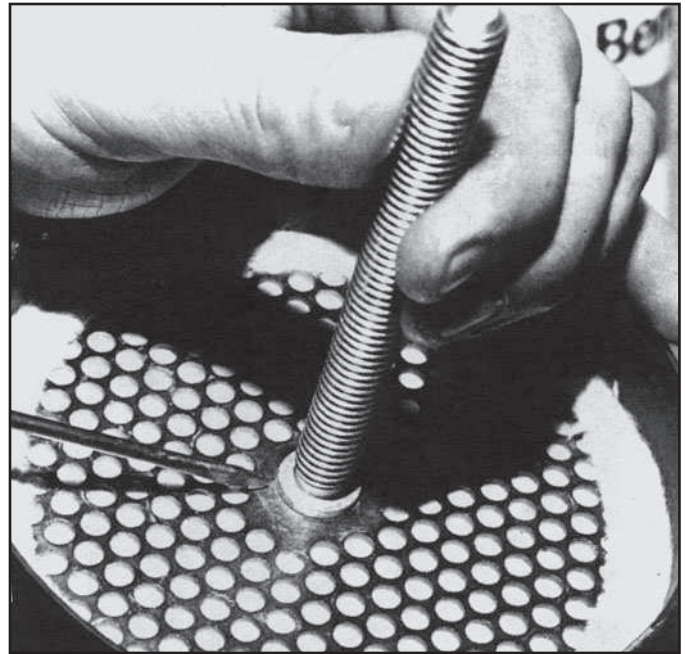

Figure 12 – Perforated Plate
Before tightening the lock nut down, make certain that the shoulder (the unthreaded portion) of the cartridge bolt extends slightly above the perforated desiccant plate. (See Figure 12.)
8. Level the desiccant material and install the second perforated plate **cloth side down**. Make sure the shoulder of the bolt is centered, and extends slightly above the top of the perforated plate. (See Figure 12.)